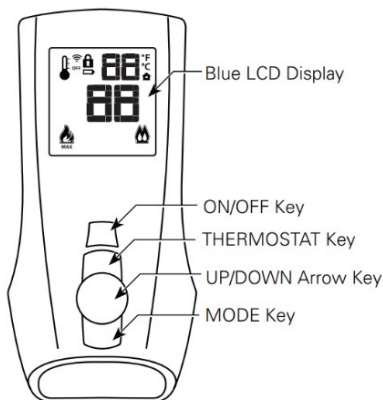
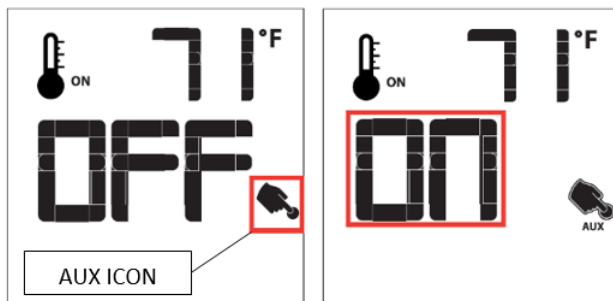
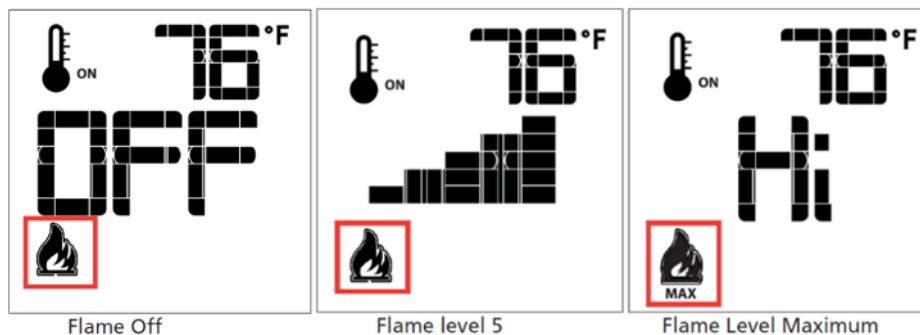
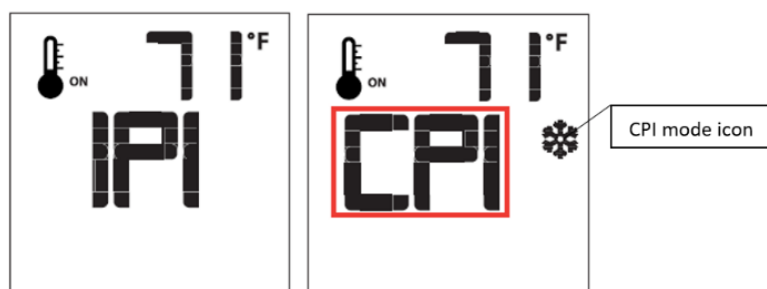

FIGURE 52
FIGURE 53
FIGURE 54
FIGURE 57
Press the **"ON/OFF"** key on the remote (**Figure 52**). A single beep from module will confirm command. Press the **"MODE"** Key until **AUX** icon is visible (**Figure 53**). Press the **"Up Arrow Key"** to turn the **AUX** to **ON** and activate the Meridian Control Panel to power on the fan and damper. Press the **"MODE"** Key until **Flame Level** screen appears (**Figure 54**) then press the **"ON/OFF"** key to turn off system. The fireplace system will now initialize once the remote **"ON"** key is pressed.
The system has six (6) flame levels. See (**Figure 54**) for an example. With the system on, and the flame level at the maximum in the appliance, pressing the **"Down Arrow Key"** once will reduce the flame height by one step until the flame is turned off. The **"Up-Arrow Key"** will increase the flame height each time it is pressed. If the **"Up Arrow Key"** is pressed while the system is on, but the flame is off, the flame will come on in the high position (**Figure 54**). A single "beep" will confirm reception of the command.
With the system in the “OFF” position, press the “**Thermostat**” Key and the “**Mode**” Key at the same time (Figure 52). Look at the LCD screen on the Remote to verify that a °C or °F is visible to the right of the Room Temperature display (Figure 55).
The IPI selection is the intended setting for the appliance operation. If remote is in CPI mode, it must be returned to the IPI mode. To turn it back the remote needs to be OFF. With the system in the OFF position, press the Mode Key (Figure 52) once to index to the CPI mode icon. Pressing the DOWN Arrow Key will return to IPI. A single “beep” will confirm the reception of the command (Figure 57)